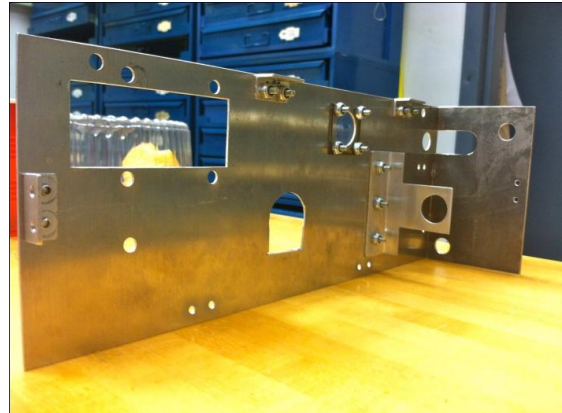

Figure 1
2. Weld BRU\_casing\_side2 to BRU\_casing\_back as seen in figure 1
Should look like Figure 1